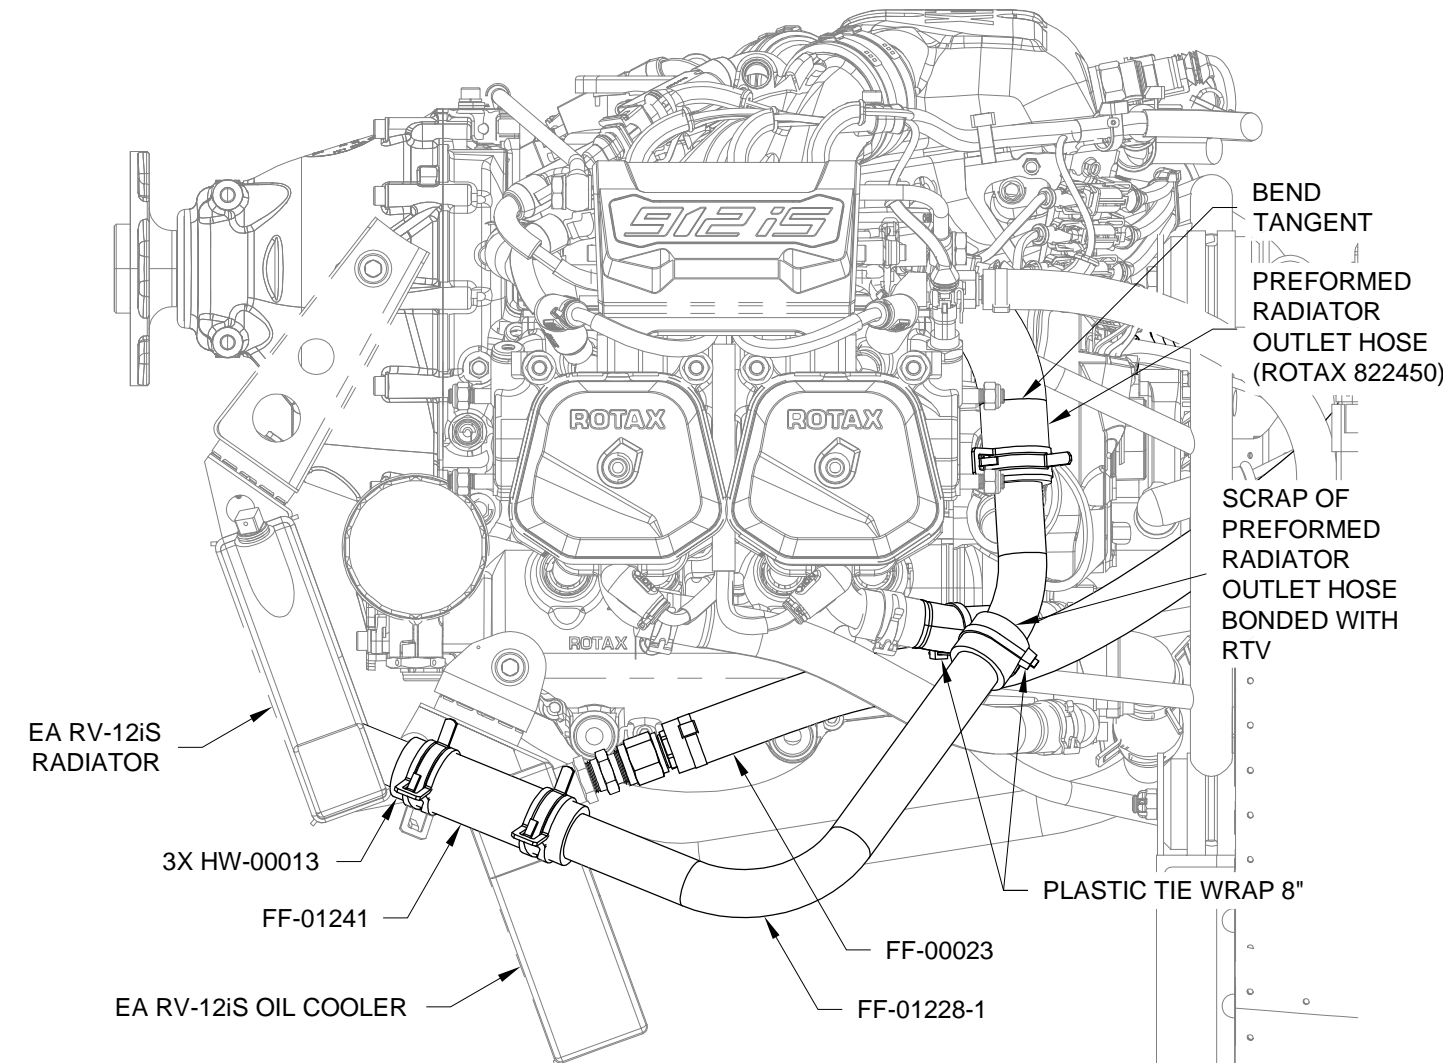

FIGURE 1: RADIATOR & OIL HOSES - LEFT SIDE
Step 11: Attach the FF-00023 to the EA RV-12iS OIL COOLER as shown in Figure 1.
Step 12: Attach the FF-01228-1 to the engine as shown in Figure 1.
Step 13: Attach the FF-01228-1 to the EA RV-12iS RADIATOR with a FF-01241 as shown in Figure 1.